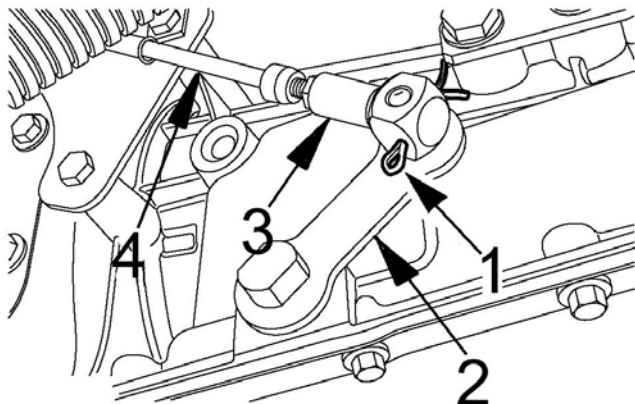

Figure 1 Remove Cotter Pin
1. Locate the transmission shift lever and remove the cotter pin from the adjuster that connects the shift cable to the transmission shift lever (Figure 1).